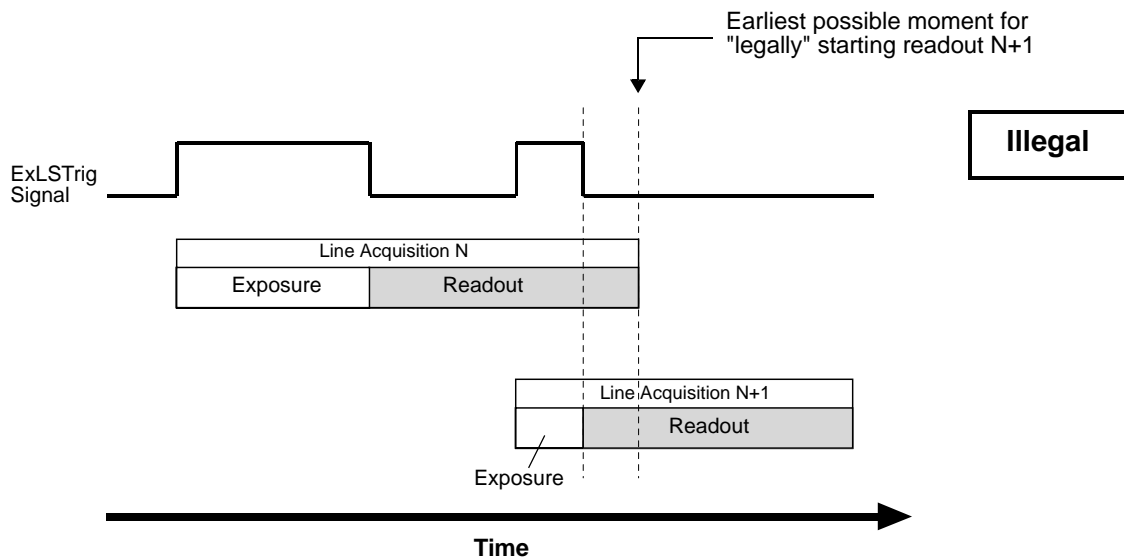
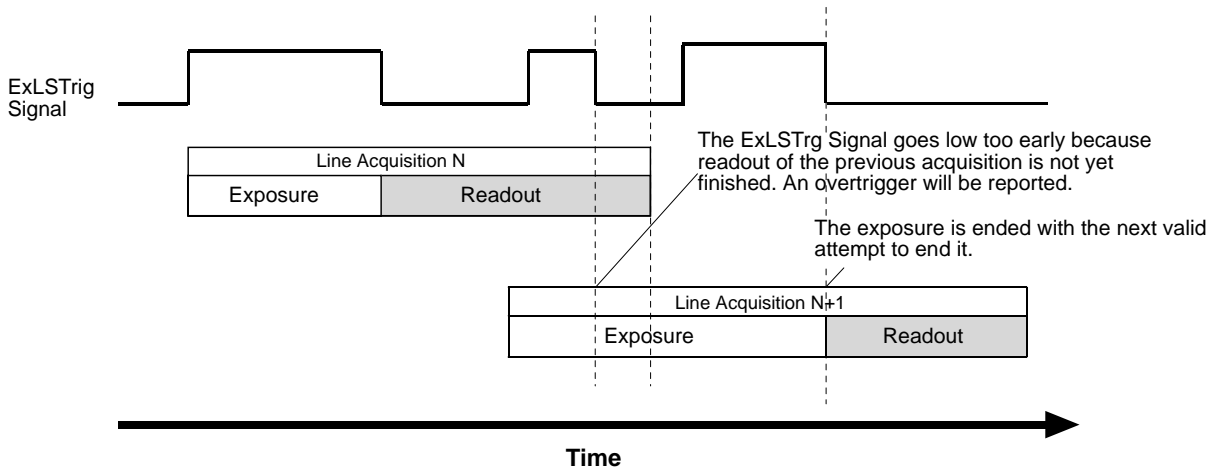

Fig. 40: Exposure N+1 Illegally Ends Before Readout of the Preceding Line Acquisition N Has Ended; Applies to Trigger Width Exposure Mode Only
Fig. 41: Extension of Exposure N+1 After the Illegal Attempt of Ending It Too Early; Applies to Trigger Width Exposure Mode Only
Certain attempts of triggering overlapped line acquisition are illegal and do not result in line acquisitions: When a line start trigger signal attempts an illegal line acquisition the trigger signal will be ignored and, accordingly, no line acquisition will be performed. In addition, the trigger signal will be reported as an overtrigger (see also Section 10.10 on page 185). Illegal triggering and impossible overlaps are shown in Fig. 39 on page 115 and Fig. 40 on page 116.
The exposure overhead (see Fig. 39 on page 115) is part of every exposure process. For simplicity, it is omitted from the other figures illustrating exposure and readout (see, for example, Fig. 40 on page 116).
- The line start trigger goes low to end the exposure for line acquisition N+1 before readout for acquisition N has ended (premature exposure end; see Fig. 40 on page 116).
When the line start trigger has illegally gone low to end the exposure for line acquisition N+1 before readout for acquisition N has ended (in trigger width exposure mode; see Fig. 40), the camera will behave as shown in Fig. 41: The camera will extend the exposure and end it when the next valid trigger for ending exposure occurs.